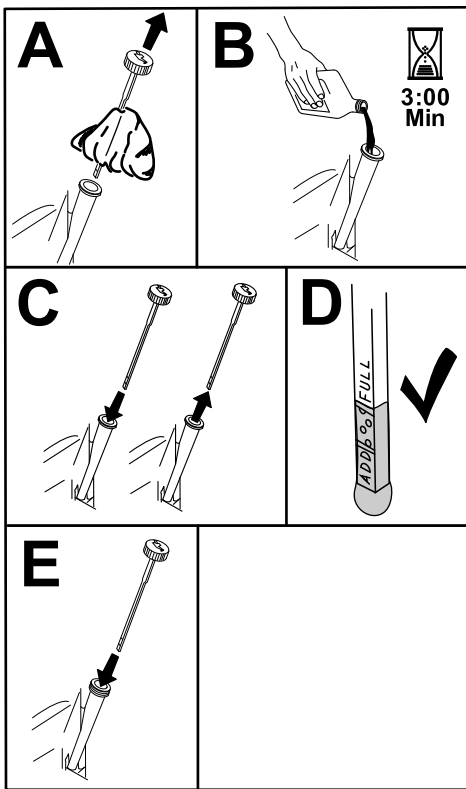

Figure 40
5. Slowly pour approximately 80% of the specified oil into the filler tube and slowly add the additional oil to bring it to the Full mark (Figure 40).